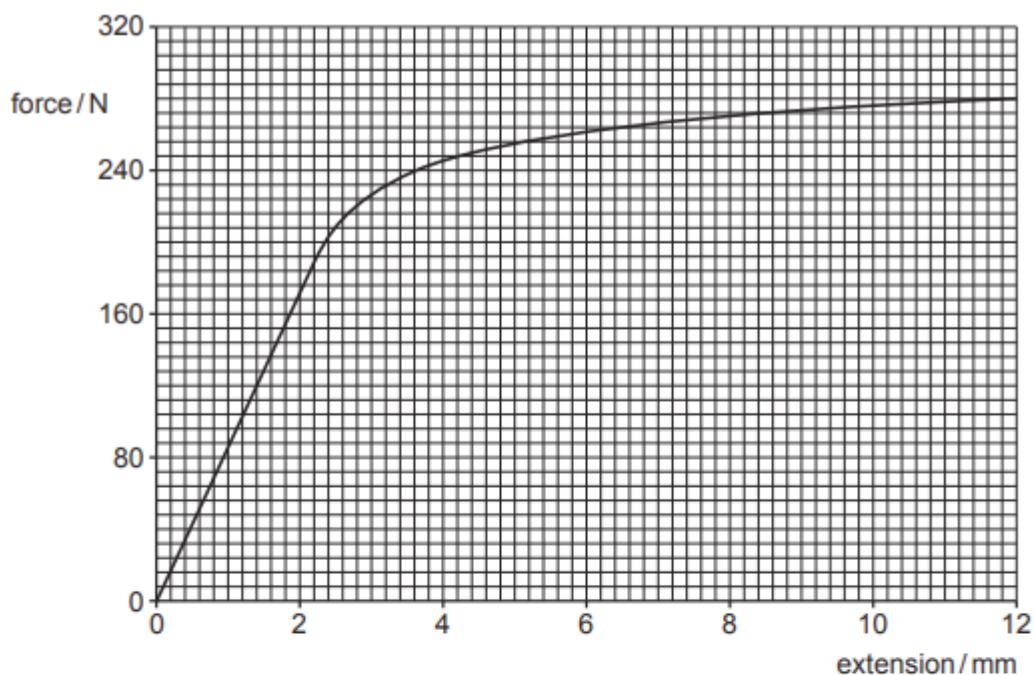

Fig. 3.3
- (b) A copper wire is stretched by a tensile force that gradually increases from 0 to 280 N. The variation with extension of the tensile force is shown in Fig. 3.3.
- (ii) Use Fig. 3.3 to determine the strain energy in the wire when the tensile force is 120 N.